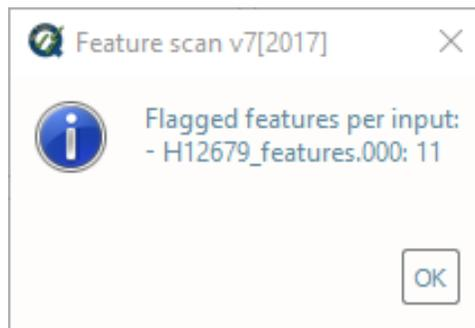

Fig. 2.23: The output message at the end of **Find holiday v4** execution.
- After computing, the output window opens automatically, and the results are shown (Fig. 2.23).